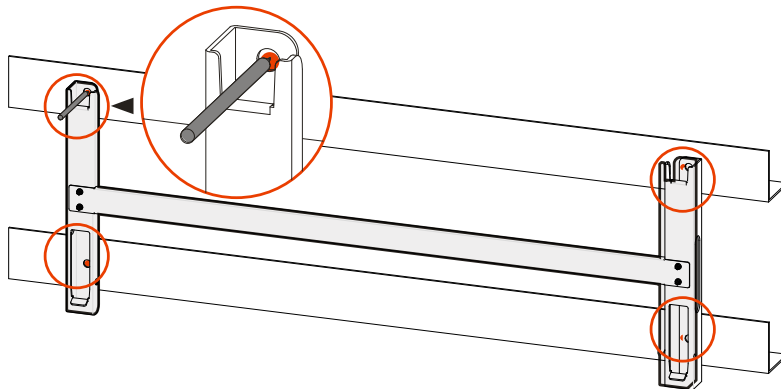

Figure3-12 Mark the mounting holes position
Step 2 Place the assembled installation holder onto the installation site, use a horizontal ruler to adjust the angle, and mark the position of the hole on the bracket, as shown in Figure3-12.